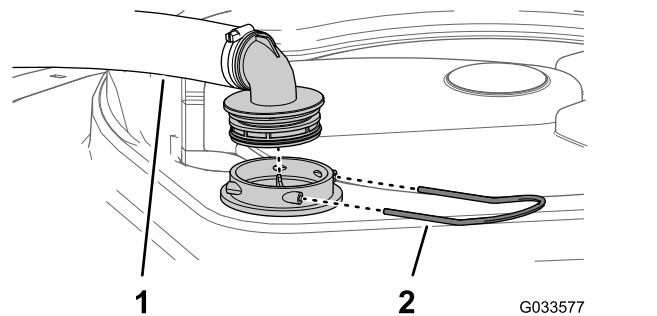

Figure 103
2. At the top of the sprayer tank, remove the retainer that secures the hose fitting attached to the large hose from the filter housing (Figure 103).
3. Remove the hose and hose fitting from the filter housing (Figure 103).